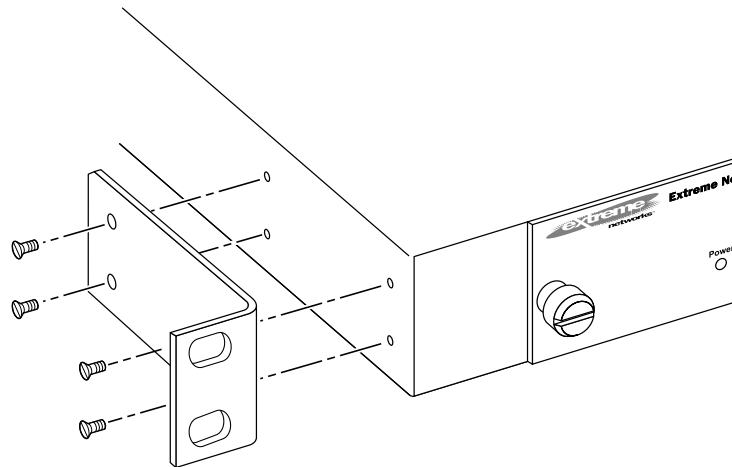

Figure 300: Attaching the Mounting Bracket
- Attach the mounting brackets as shown in Figure 300: